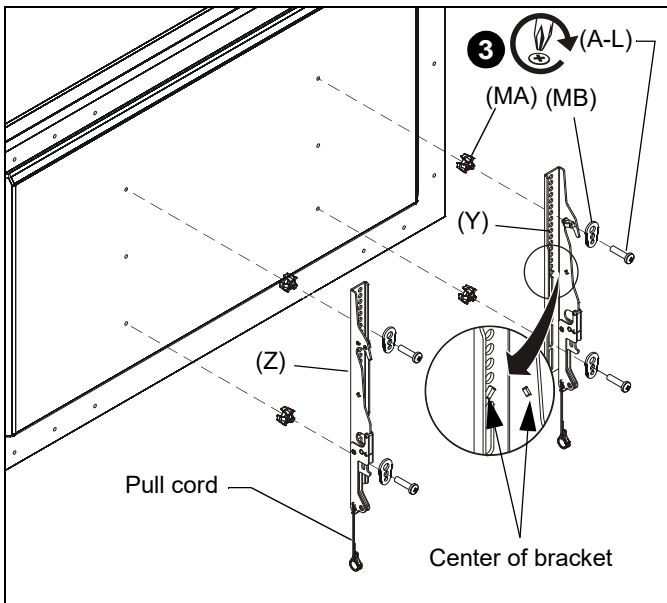

Figure 11
3. Align the center of the left (Y) and right (Z) vertical brackets with center of screen. (See Figure 11)
4. Select correct screws, nesting spacers (if necessary) and universal washers from the hardware bag (A-M) and attach brackets to back of screen. (See Figure 11)